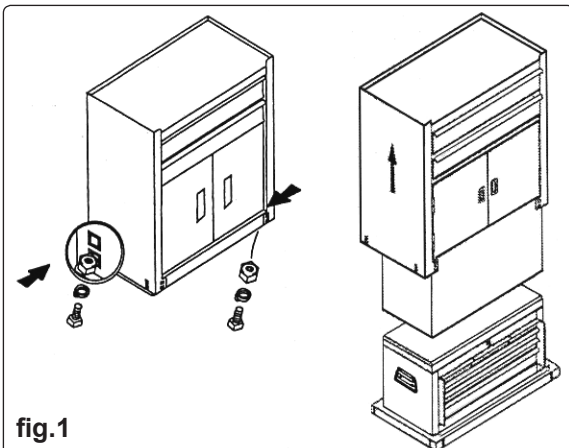

fig.1
3.1 Remove the bolts, nuts and washers from the base of the rollcab, (fig.1) and then lift off the body to uncover the topchest.